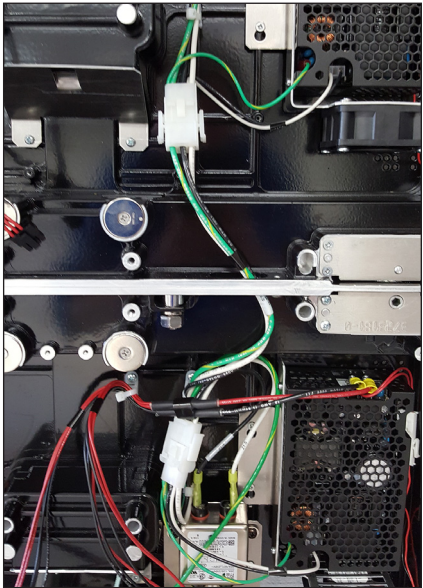

Figure 32: Connect Vertical Power
2. Connect the internal AC harness and route the harness vertically through the pass-through holes as shown in **Figure 32**. Power routes internally to the display after field power is landed. Refer to **Land Field Power/Signal (p.2)**. Interconnects should route horizontally.